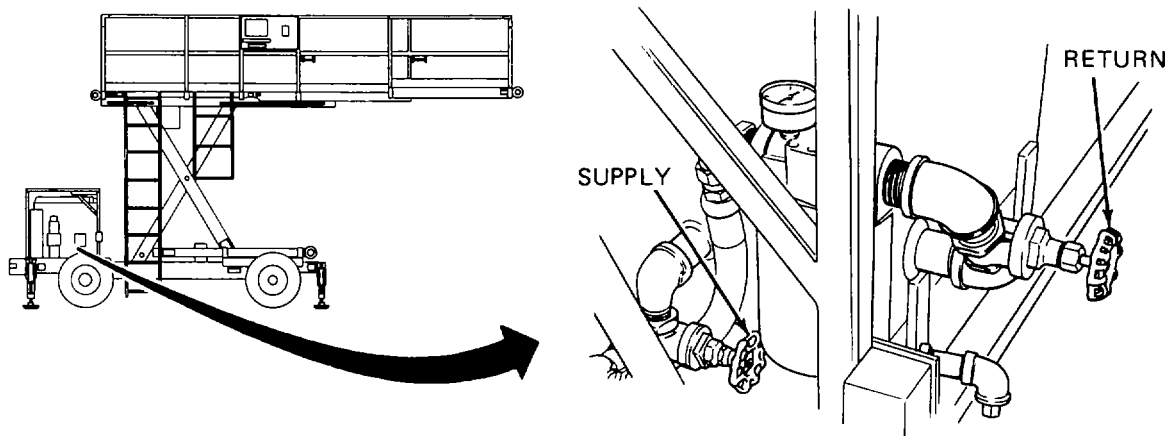

Figure 3-27. Hydraulic System Gate Valves.
- (1) Close (turn fully clockwise) both the supply and return line gate valves (Figure 3-27).